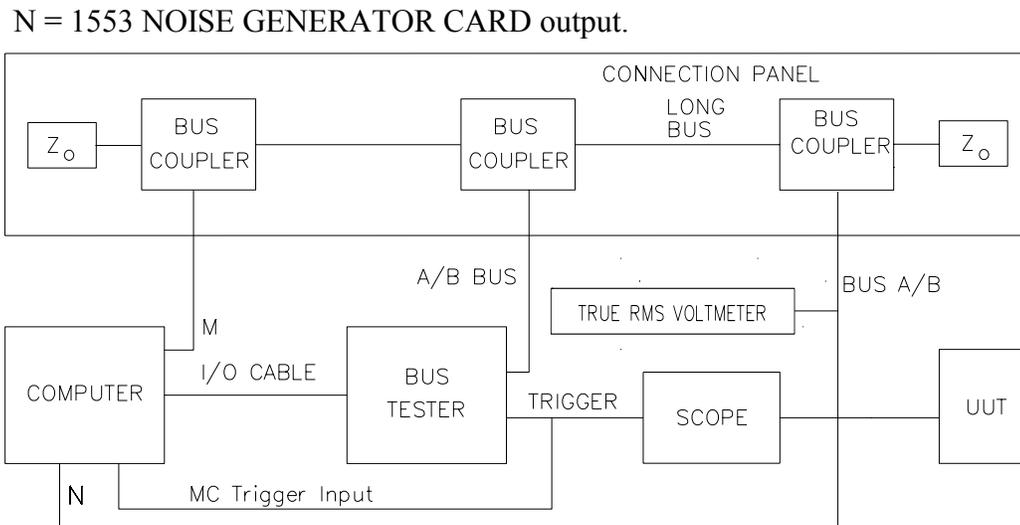
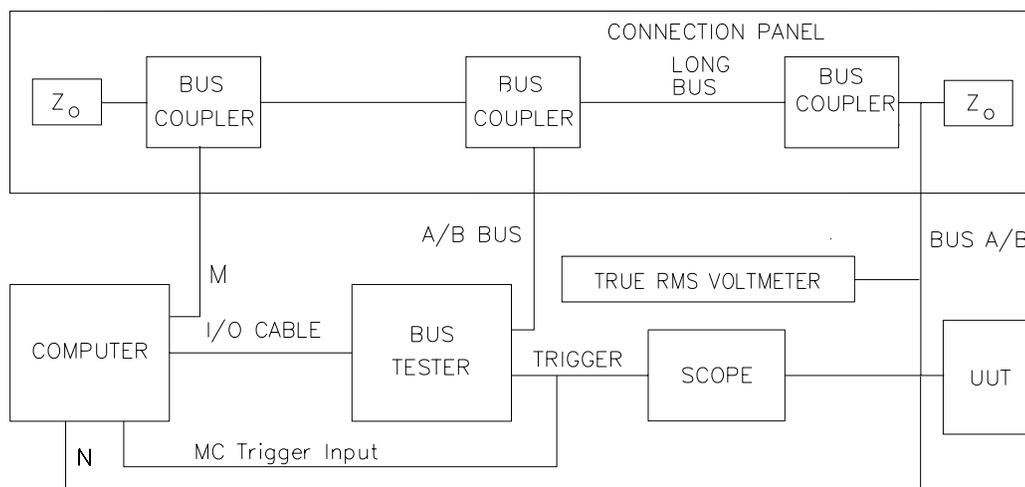

Figure 13. Noise Rejection Transformer Coupled Configuration
Figure 14. Noise Rejection Direct Coupled Configuration
**A.** Connect the equipment as shown in Figure 13 or Figure 14 for the transformer coupled or direct coupled bus to be tested. See Figure 10A of the RT Validation Test Plan for the Noise Rejection Test Configuration. Note: The True RMS Voltmeter should be warmed up for one hour prior to testing.